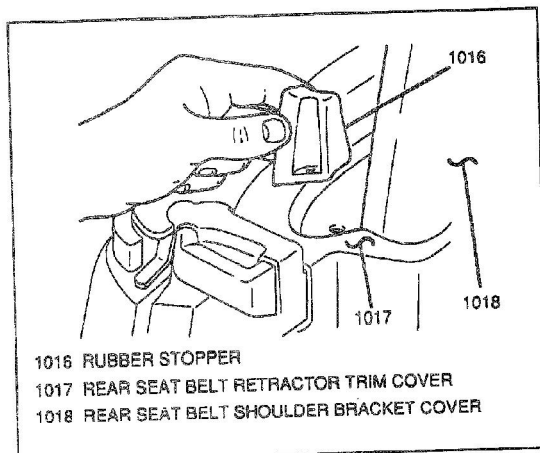

Figure 5—Rubber Stopper—Two - Door Models
2. Two screws and rubber stopper from vehicle (Figure 5).
- 3. Rubber stopper to vehicle; secure with two screws (Figure 5).